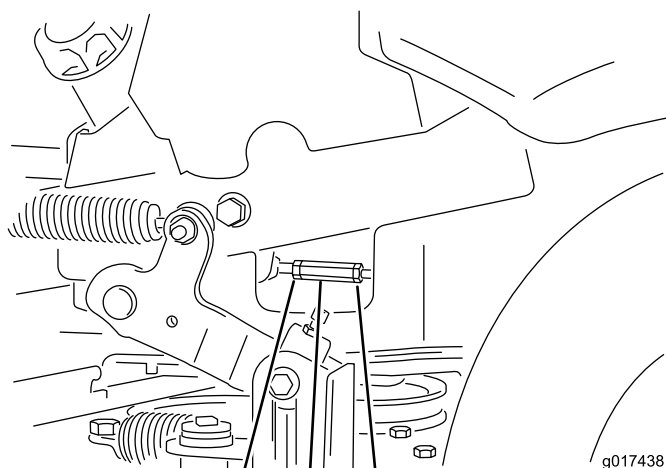

Figure 62
7. Bring the motion control levers into the neutral position. Adjust the pump control rods by loosening the two jam nuts and rotating the adjustment nut in the appropriate direction until the wheels slightly creep in reverse (Figure 62). Move the motion control levers to the reverse position and while applying slight pressure to the lever allow the reverse indicator springs to bring the levers back to neutral. The wheels must stop turning or slightly creep in reverse.
8. Tighten the two jam nuts against the adjustment nut (Figure 62).